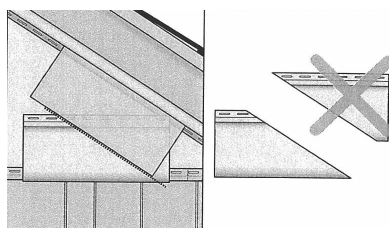

Fig. 19
**NOTE: PANELS MUST BE INSTALLED FROM RIGHT TO LEFT. Do not nail tight. Allow 1/4" into all channels, posts and stops. Make a template for gable angle by locking a short piece of siding into the gable starter course. Hold a second piece against the gable finish trim. Mark angle on first piece and cut (see Figure 19). Make templates as needed.**